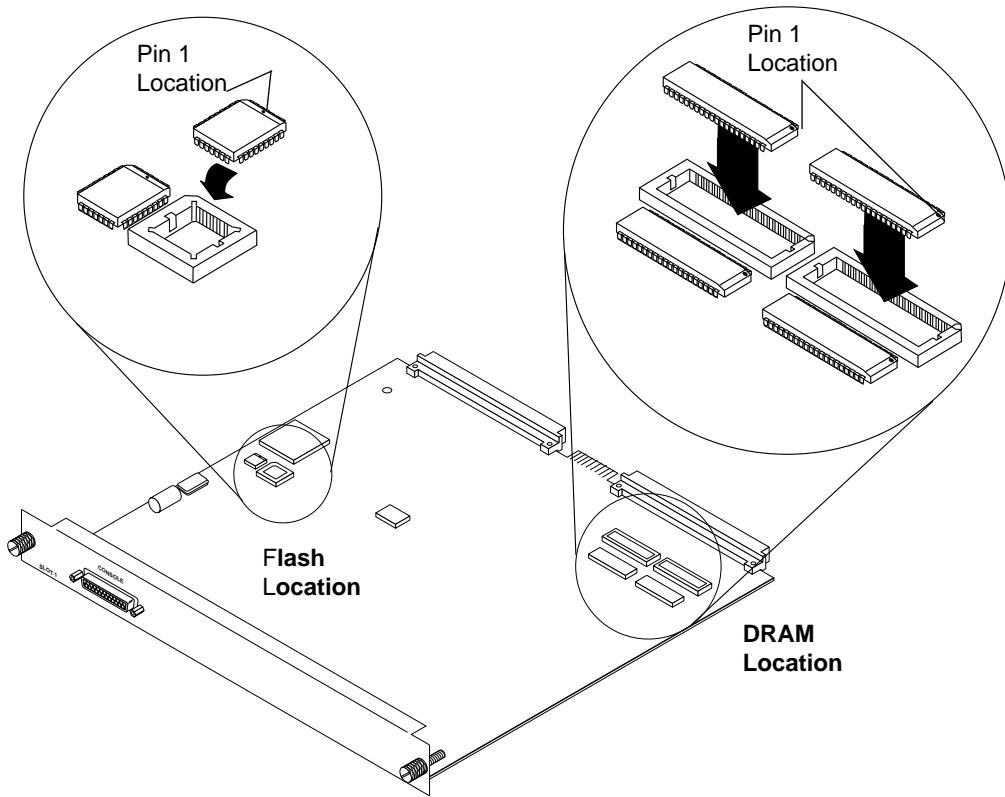

Figure 2 Flash and DRAM Socket Locations
- 2** Find pin 1 on the empty Flash socket. It is the middle pin on the socket edge nearest the i960. Refer to Figure 2 for details.
- 3** Remove the Flash chip from the upgrade kit. Open the anti-static box containing chip and remove the chip. The word "Flash" appears on the chip: directly above is a beveled edge containing a dot in the center (refer to Figure 2).
- 2 Locate the arrow in the upper right-hand corner of the empty sockets. This is pin 1. Refer to Figure 2 for details.
- 3 Remove the two 40-pin DRAM chips from the upgrade kit and remove them from their anti-static bag. Locate pin 1 on a DRAM chip (slanted edge - see Figure 2 for details).